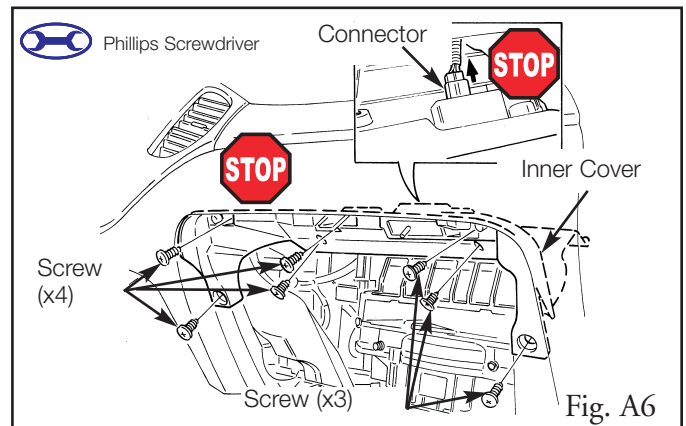

Fig. A6
6. Remove the glove box inner cover. (Fig. A6)